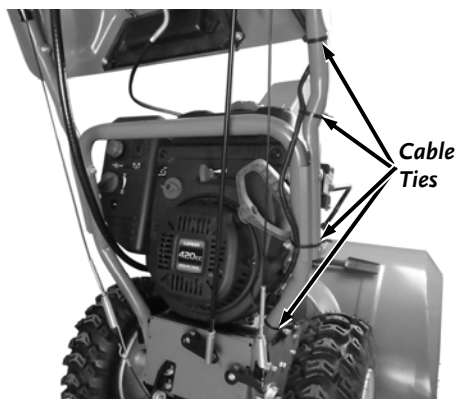

Figure 22
22. Install Cable Ties to secure the Wire Harness to the Handlebar, making sure that the Cables are not on top of the Handlebar where they can interfere with the Starter Pull Cord (**Figure 22**). Wear eye protection as you cut the excess ends of the Cable Ties using Wire Cutters.